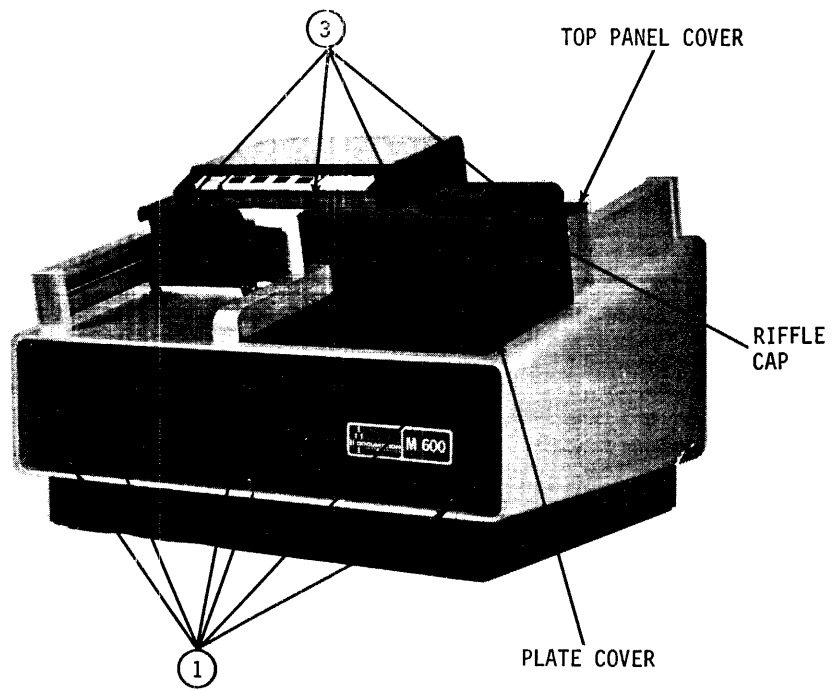

Figure 9-1. Front Panel and Top Cover Removal
After each 160 hours of operation, the card track should be cleaned. Using a 5/64 Allen wrench, remove four button head screws (3), Figure 9-1, holding top panel cover. Remove this cover and use a vacuum cleaner to remove any card debris buildup around the picker and stacker castings. Use a small brush to clean around the picker and stacker rollers and picker sector.
- a. Using a 5/64 Allen wrench, remove six 6 x 32 button head screws ① retaining front panel and remove front panel, figure 9-1.
- a. Using steps a. and b. of Paragraph 9.3, remove front and rear panels, figures 9-1 and 9-2.
- a. Using a 5/64 Allen wrench, remove four button head screws (3), figure 9-1, holding top panel cover.
- b. Using a 5/64 Allen wrench, remove six 6 x 32 button head screws (1), figure 9-1, retaining front panel and remove front panel.
- a. Using steps a. and b. of paragraph 9.3, remove front and rear panels, figures 9-1 and 9-2.